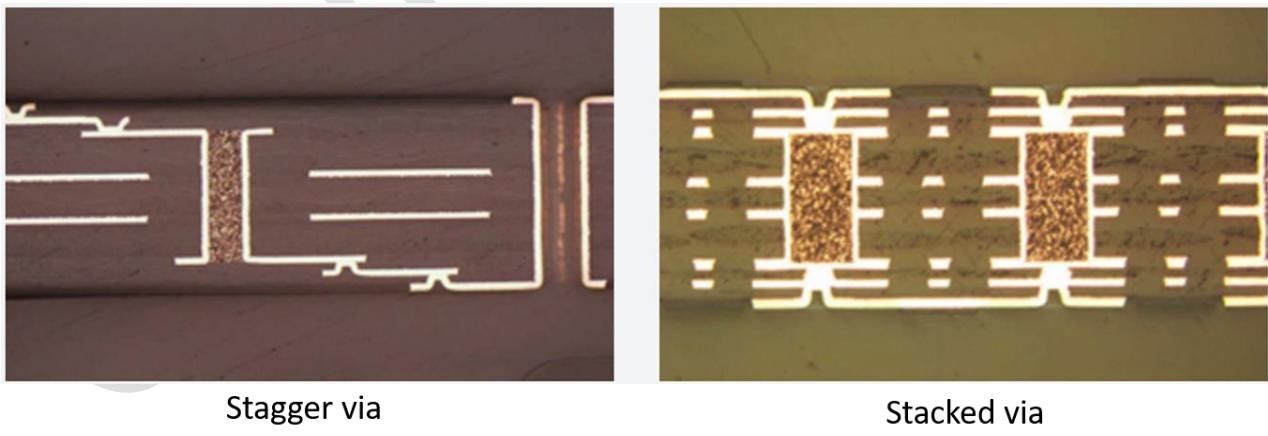

Figure 35: Comparison Between Stagger Via and Stacked Via
7. In the HDI process, stacked via is preferred over stagger via as shown in Figure 35.